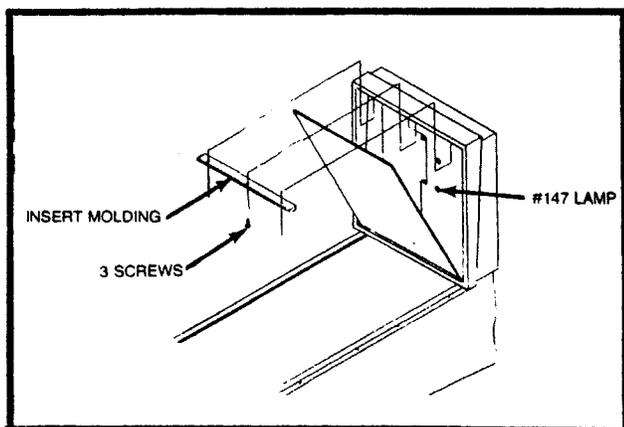

Fig. 9-39. Display insert lamp replacement. Use a 147-type bulb.
1. Remove the three screws in the insert molding. Remove the molding. Refer to Fig. 9-39.